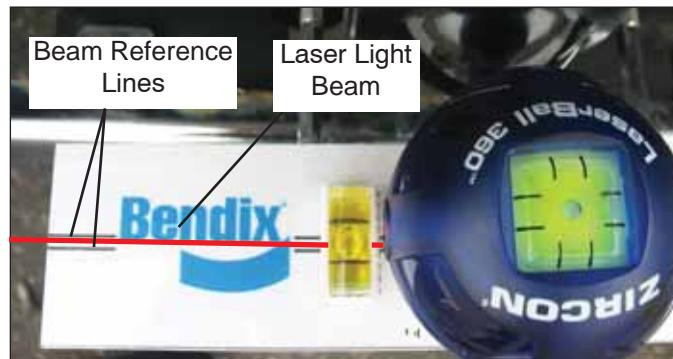

FIGURE 33 - POSITIONING THE LASER LEVEL (KITS K041451 OR K041227)
3. Position the alignment tool over the radar sensor so that it straddles the radar sensor. Attach the alignment tool to the bracket / radar sensor assembly with its magnet attachments. See *Figures 33 and 34*.